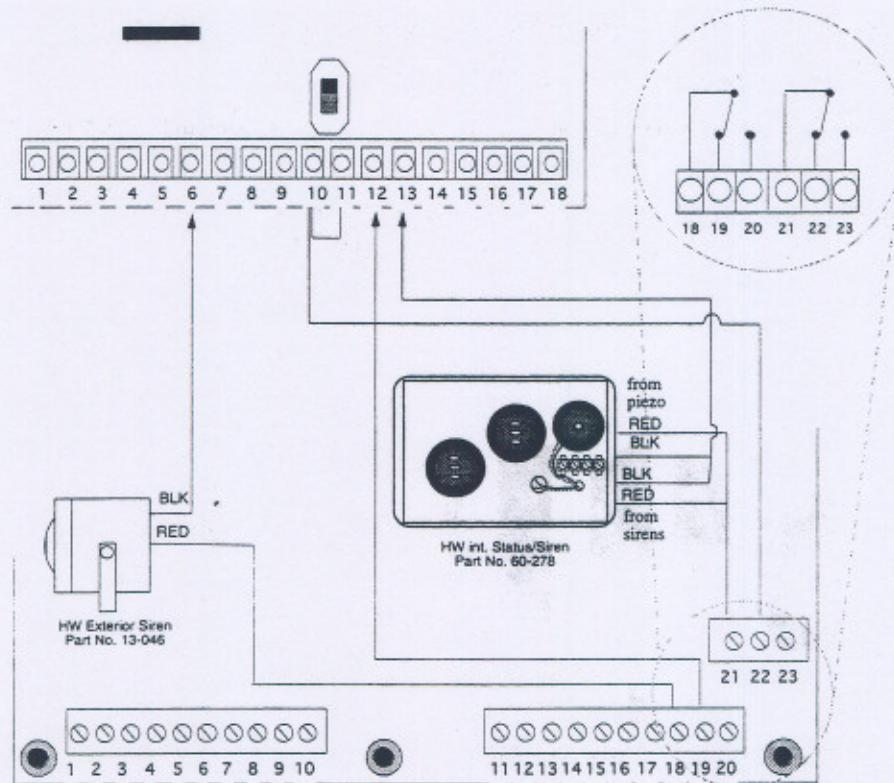

Figure 2.7 SX-V Siren Wiring
3. Connect the SX-V interior and exterior sirens through the Interrogator Module relays (terminals 18 through 23) so that sirens are cut off during listen-in or talk-back mode. (Refer to Figure 2.7.)